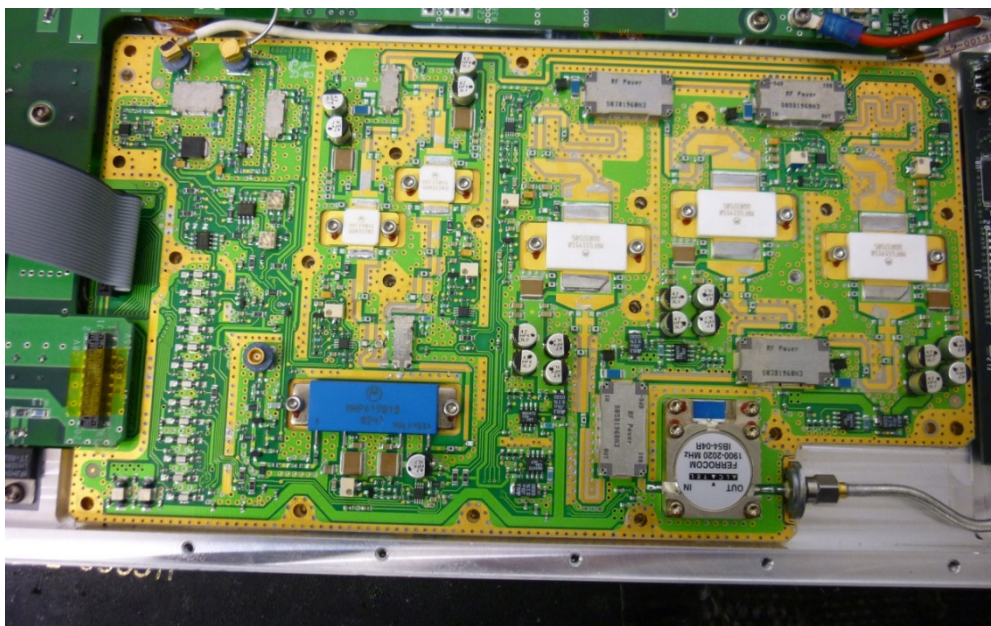

Figure 2 Typical 'all in one' amplifier
2. One big PCB with all devices and hybrids together (for example, Figure 2).